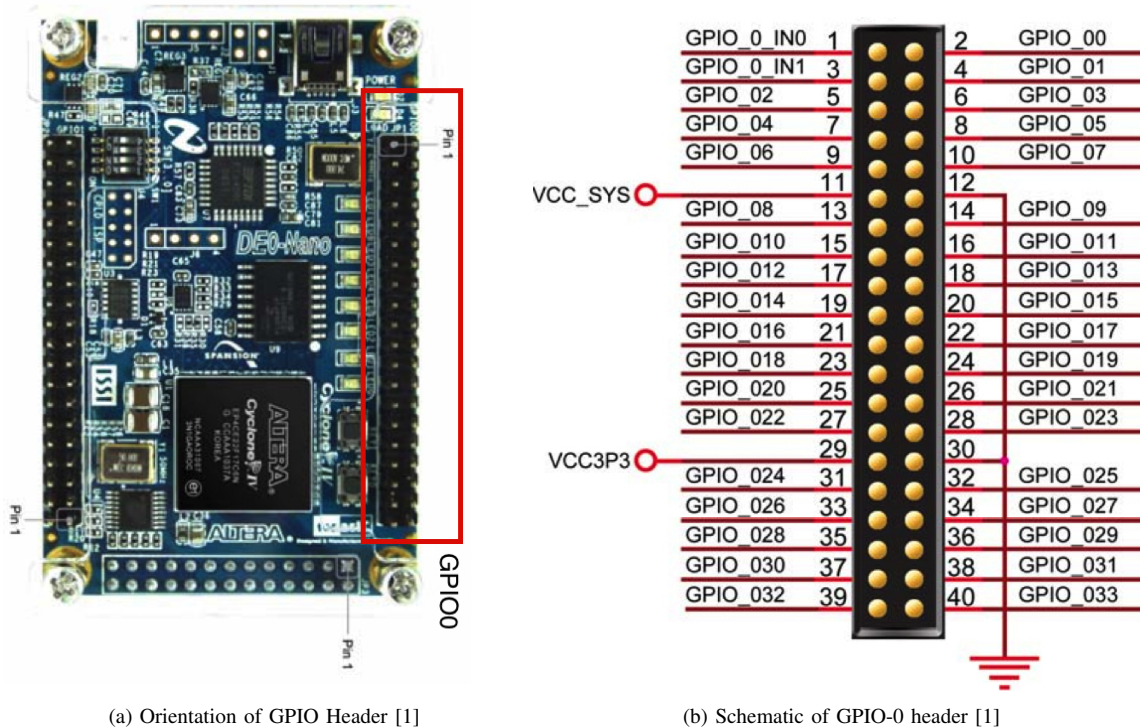

Fig. 4: GPIO0 and its orientation on the development board
1) *GPIO headers on the DE0-Nano:* Be careful when referencing the pin diagrams in the DE0-Nano user manual. It is easy to read it backwards, that cost you hours. It is easiest to match the Nano's orientation with the schematic and count from the nearest edge. Figure 4 shows GPIO 0 next to a schematic of the header. Always check VCC_SYS, VCC3P3, and GND with a multimeter before